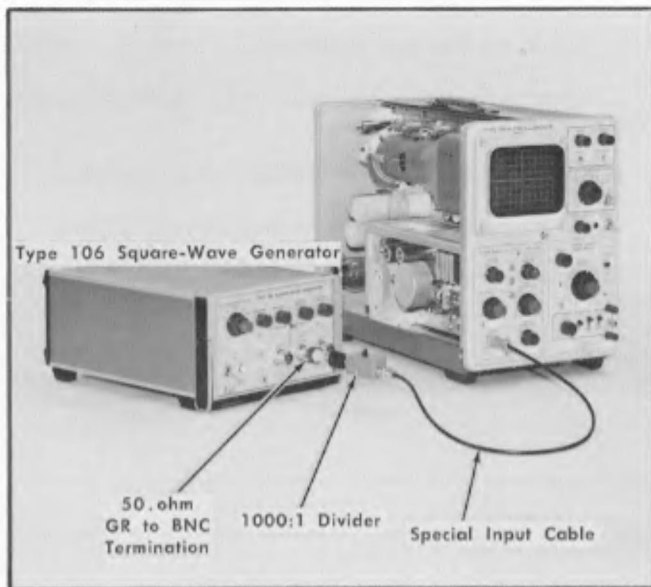

Fig. 6-20. Initial test equipment setup for steps 16 through 18.
16. Adjust Millivolts/Div Compensation ❶
- a. Test equipment setup is shown in Fig. 6-20.